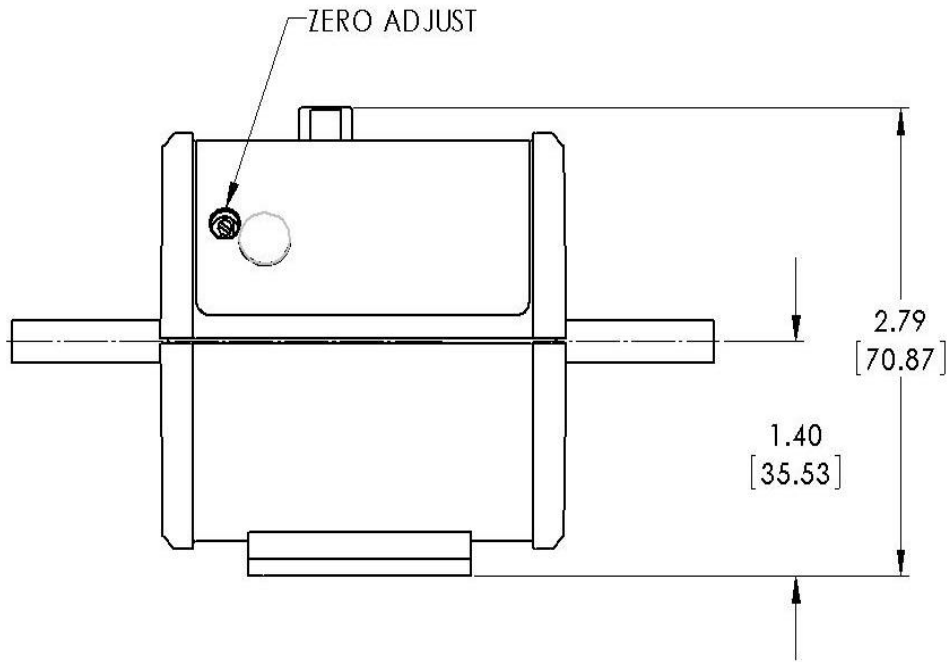

Figure 1 - The 226B/228A in the Normal Orientation
- The preferred orientation of the transducer is with the pressure port tubes horizontal (see Figure 1 - The 226B/228A in the Normal Orientation) although the 226B/228A can be mounted in any orientation.